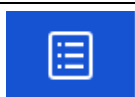

**Figure 5.13: Search results screen with structure object selected**
<p>④</p> <p> Search</p>	Searches through the Memory Organizer for objects according to the set filters. The results are shown in the Search results screen presented on Figure 5.12 and Figure 5.13 .